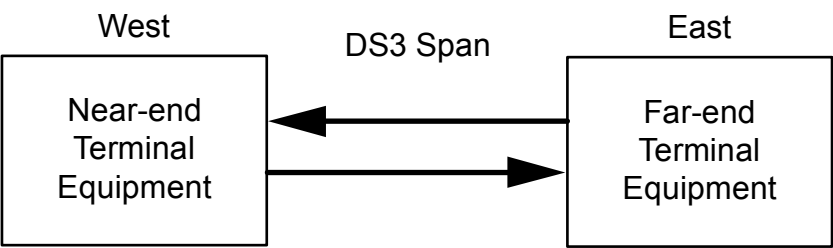

Figure 15-14. DS3 Far-End Block Error (FEBE)
The FEBE function uses the three C-bits in subframe 4 of the DS3 signal. This is illustrated in the following example (refer to Figure 15-14):
The near-end terminal equipment (TE) continuously monitors its incoming direction of transmission (west-bound in Figure 15-14) for the occurrence of a framing or parity error event. Upon detecting a framing or parity error event via the west-bound CP-bits, the near-end TE will count the event as a C-bit parity error, and indicate (via the east-bound FEBE bits) to the far-end TE that an error has occurred. The C-bit parity error is indicated via the east-bound FEBE bits by setting the three FEBE bits to “000” in order to indicate the error. The three FEBE bits are set to “111” if no parity error event has occurred. Because the DS3 terminal equipment (TE) monitors both the CP-bits and FEBE bits (as well as the FEAC channel), the overall performance of the DS3 path can be determined at either end of the path for both directions of transmission.